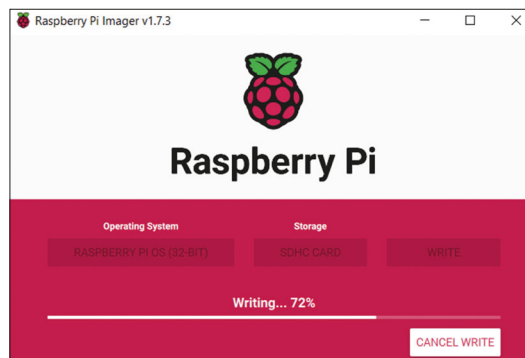

Figure 1.10: Copying the operating system to the micro SD card.
- Click **Write** to write the operating system on the micro SD card. Wait until the write and verify operations are finished (Figure 1.10).